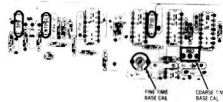

Figure 5-15. Horizontal Time Base Alignment Points
4. Adjust the Coarse Time Base Calibration Potentiometer on the Scope Amplifier Board (Figure 5-15) so that one cycle of the displayed waveform occurs in 5 cm along the horizontal axis. Use the Vertical and Horizontal Position controls to center and to move the waveform so that the 5 cm are measured in the middle of the screen to avoid nonlinearities near the edge of the CRT.
6. Adjust the Fine Time Base Calibration Capacitor on the Scope Amplifier Board (Figure 5-15) so that one cycle of the displayed waveform occurs in 5 cm along the horizontal axis. Use the Vertical and Horizontal Position controls to center and to move the waveform so that the 5 cm are measured in the middle of the screen to avoid nonlinearities near the edge of the CRT.